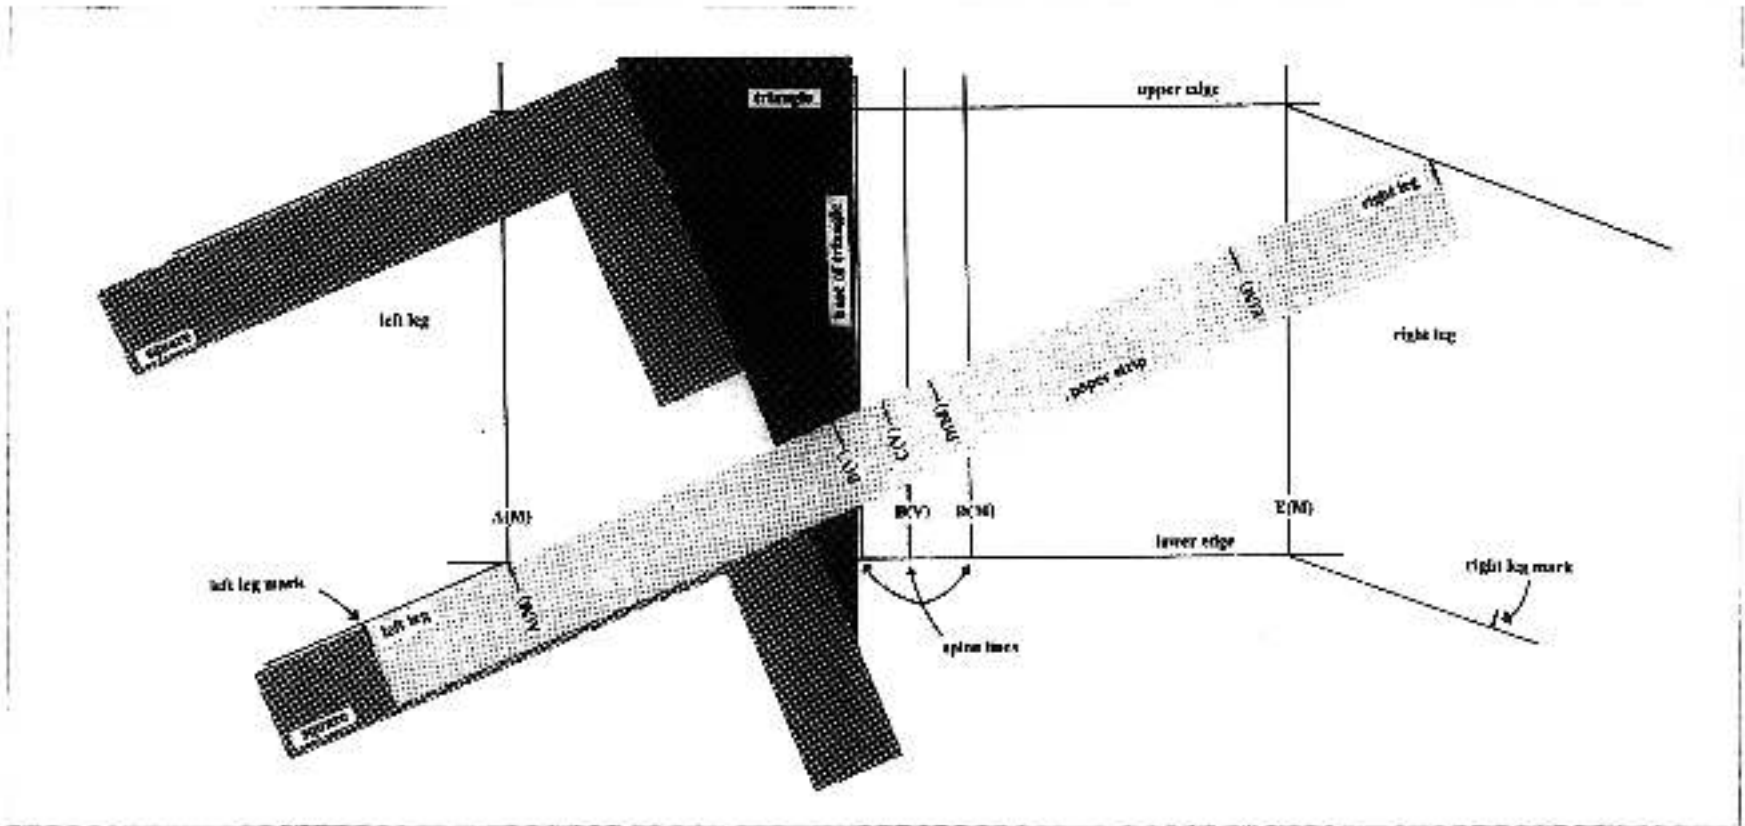

Fig. 8b. Translating predetermined angle to the leg drawing.
Place the base side of the cardboard triangle along any one of the drawing's spine lines. The legs are to be drawn at right angles to the cardboard triangle using a square. Draw the legs, beginning at the intersections of the upper and lower edges of the pattern at the lines for the outer most angles. On the example, the legs are drawn at the upper and lower edges of both Lines A(M) and E(M). Using the paper strip, mark the length of both the left and the right legs on the lower leg lines (fig. 8b).